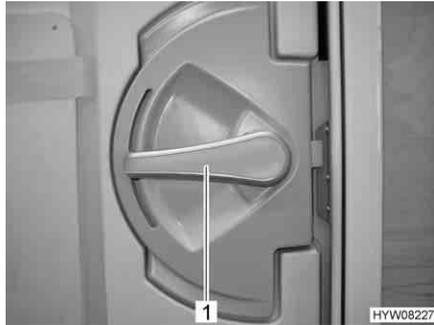

Fig. 26 Door lock of conversion door, inside
- Opening:* ■ Push the handle (Fig. 26,1) down.
- Locking:* ■ Turn the handle (Fig. 26,1) approx. 45° upward and leave it in this position.